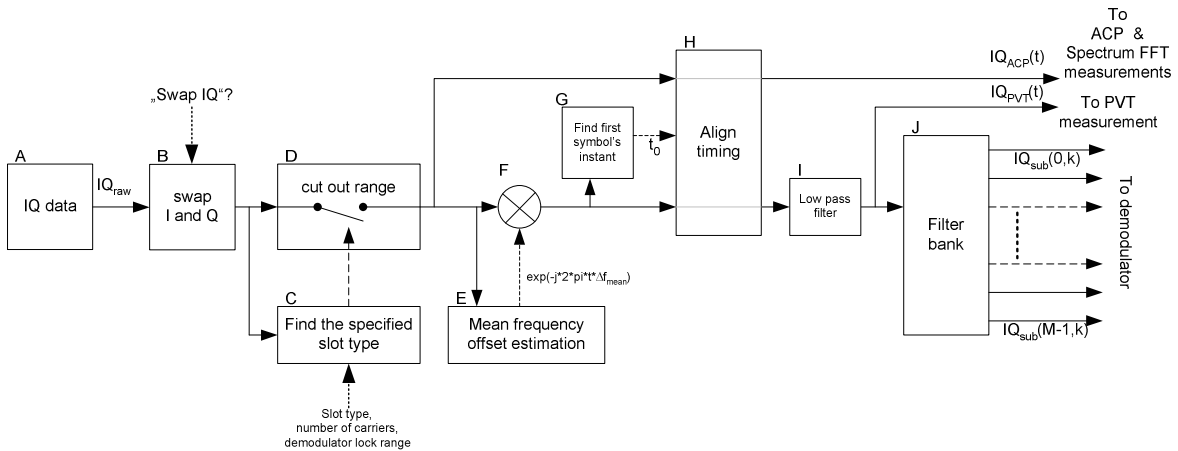
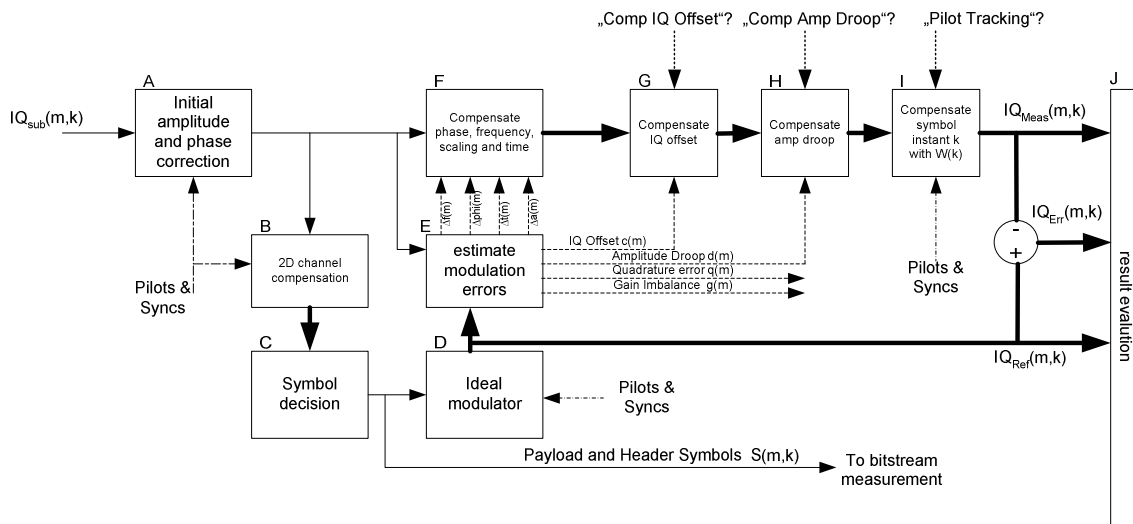
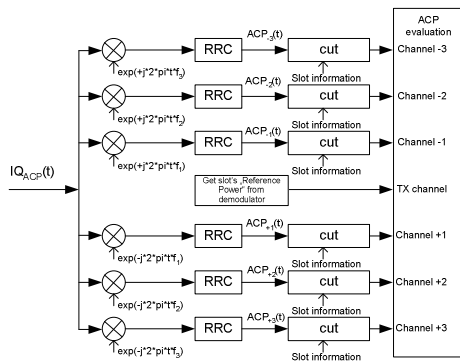
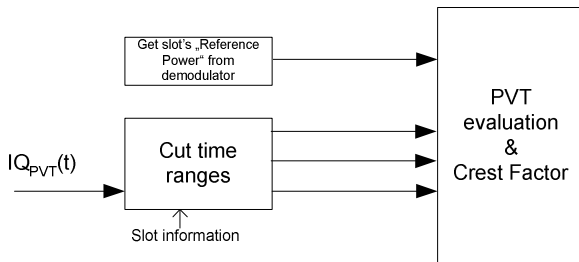

Fig. 42 Slot based signal processing overview
Fig. 43 Subcarrier based signal processing (demodulator)
Fig. 45 ACP signal processing
Fig. 46 PVT signal processing
Fig. 42 shows the signal processing that deals with the whole slot (all subcarriers together):
Fig. 43 shows that part of the application’s signal processing specific for a single subcarrier. The application has M identical paths like this, one for each subcarrier. For the input signal $IQ_{sub}(m,k)$ please refer to Fig. 42.
Note that the pilot tracking can take care of arbitrary time-varying amplitude and phase changes that were not compensated by earlier stages. Block A and F in Fig. 43 only compensate a constant (over time) amplitude and phase error. Block H in Fig. 43 only compensates an amplitude change that is exponential over time.
- All the estimates of the slot based signal processing (please refer to Fig. 42). Not drawn in Fig. 43.
- All the estimates of the subcarrier based signal processing (please refer to Fig. 43).
is shown in Fig. 45. For the input signal $IQ_{ACP}(t)$ please refer to Fig. 42.
Fig. 46 shows the signal processing specific to measurement "Power Versus Time". For the input signal $IQ_{PVT}(t)$ please refer to Fig. 42.